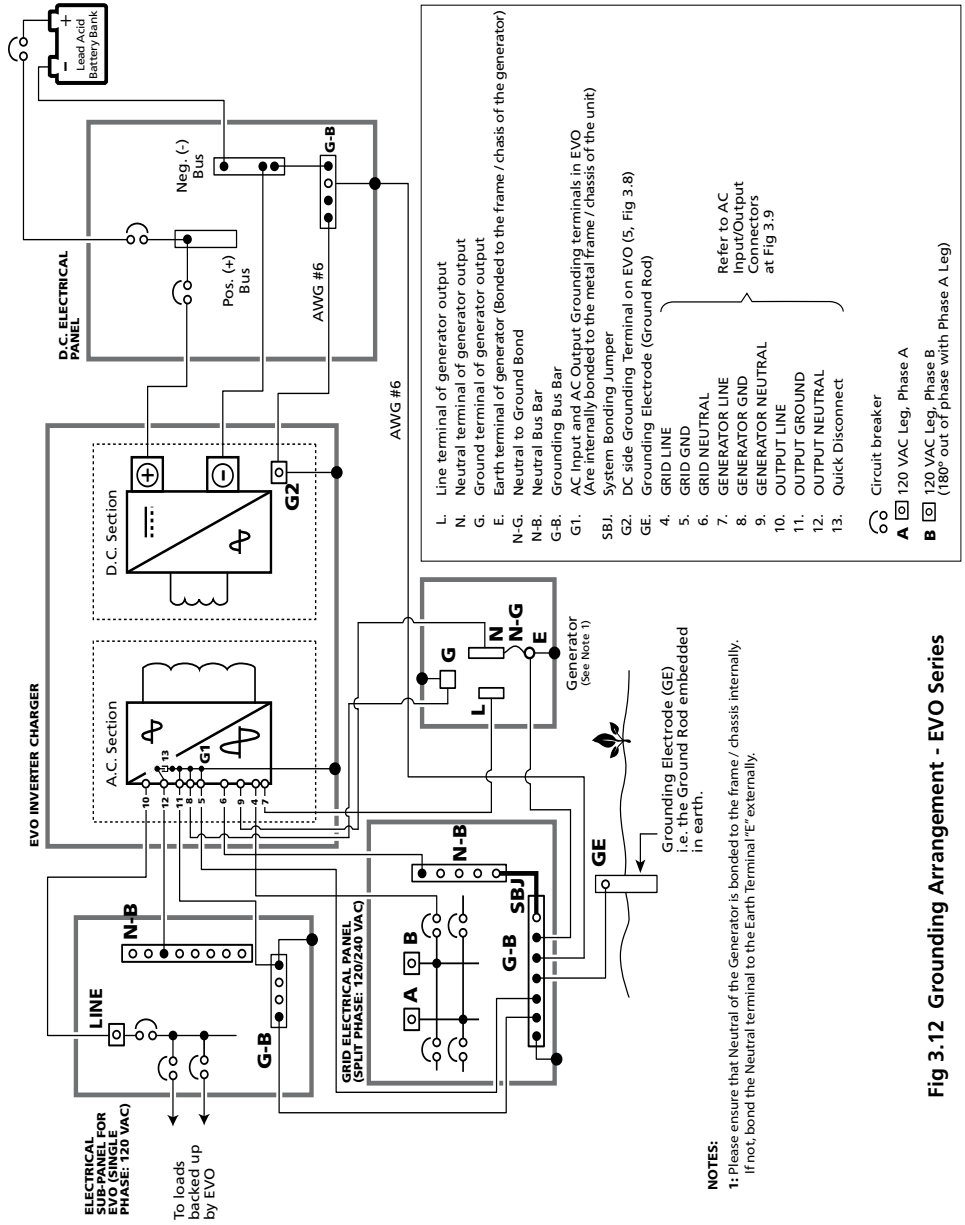

Fig 3.12 Grounding Arrangement - EVO Series
Schematic at Fig. 3.12 illustrates the grounding arrangement of EVO Series.
3.13 DC SIDE GROUNDING (SEE FIG. 3.12)
As described at Section 3.14, the metal frame / chassis of the EVO (Fig 3.12, G1) is bonded to the Earth Ground "GE" (Ground Rod) for AC side grounding. It may be argued that if the metal frame / chassis of EVO is already bonded to Main Earth Ground "GE" for AC side grounding, why it is necessary to provide additional DC side grounding wiring? (Wiring that bonds DC Grounding
Terminals "G2", "G-B" and GE in Fig 3.12) If separate thicker grounding wire of the same size as the battery cable was not provided for the DC side grounding and there was a ground fault in the battery circuit, very large DC fault current from Battery+ would flow through the smaller size AC grounding wires to the Battery Negative through Earth Ground. These smaller size AC side grounding wires would be damaged due to very high DC side fault current (150A to 400A depending on the Model of the EVO being used).
A DC Distribution Panel, as shown in Fig. 3.12, is normally provided to connect the batteries and distribute DC power to the inverter and to the other DC loads.
3.14 AC SIDE GROUNDING (PLEASE SEE FIG 3.12)
- In EVO, the AC Input Grounding Terminals {GEN GND (8), GRID GND (5)} and AC Output Grounding Terminals {OUTPUT GND (11)}, are internally bonded to the metal chassis of the inverter (G1)
- The Grounding Wires from Grid/Generator are connected to the AC input Ground terminals in EVO {GRID GND (5), GEN GND (8)}.
- The AC output Ground wire of EVO {OUTPUT GND (11)} is connected to the Grounding Bus Bar (G-B) of the Electrical Sub-Panel for EVO.
- The AC Ground (E) of the Generator is also connected to the Grounding Bus Bar (G-B) of the Grid Electrical Panel.
- The Grounding Bus Bar (G-B) of the Grid Electrical Panel is bonded to the Grounding Electrode (GE) e.i. the Ground Rod.